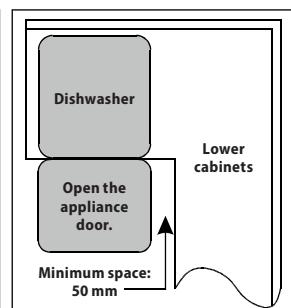

Fig. 14
- If the dishwasher is installed in a corner of the lower cabinets, make sure there is a free space around the open dishwasher door 50 mm (Fig. 14)